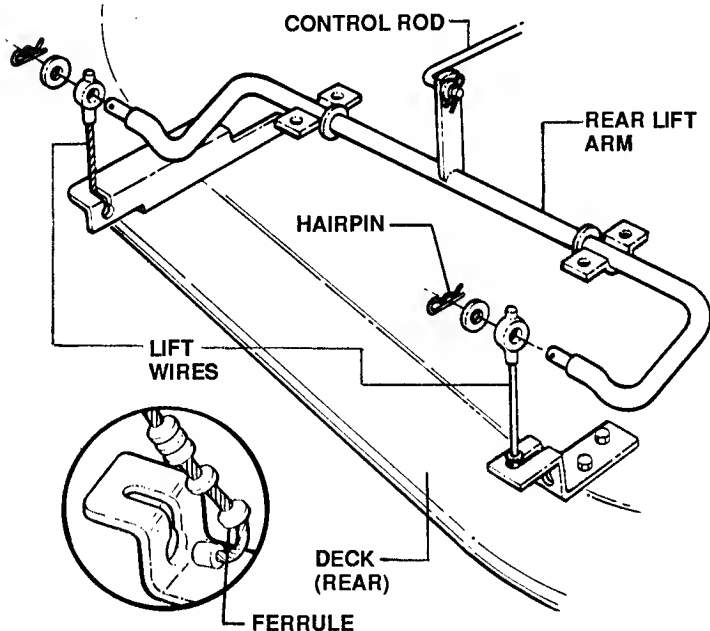

FIGURE 27
3. Remove hairpins and washers from REAR LIFT CABLES. See Figure 27.
10. Adjust LIFT CABLE FERRULES in REAR LIFT BRACKETS until CABLES just slide over the rear arm pins. Reinstall flat washers and hairpins. Recheck level. See Figures 27 & 31.